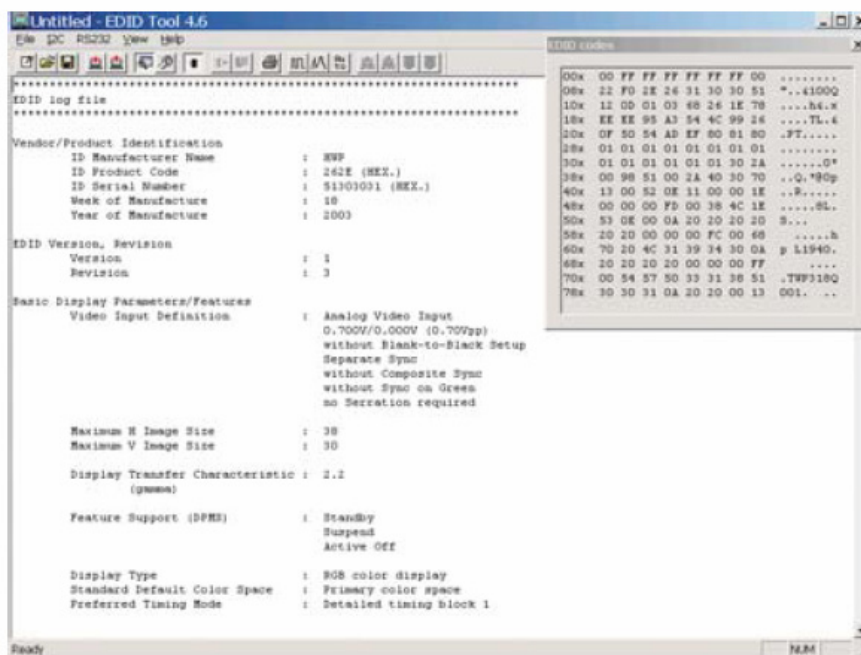

Fig. 13
4. Click  icon (Read EDID function) to read DDC EDID data from monitor. The EDID codes will display on screen as shown in Fig. 13.